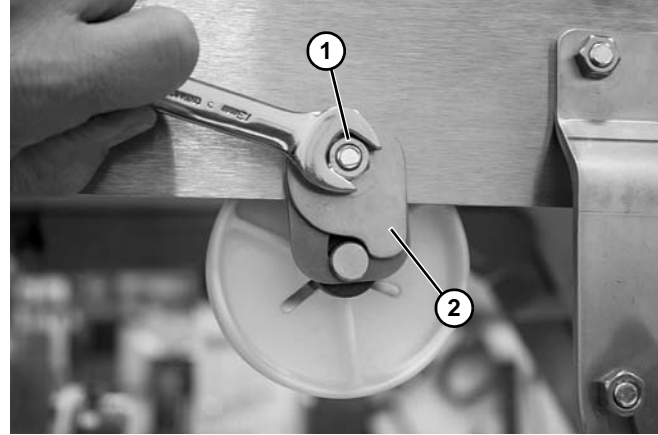

**Figure 89**
- c. To lock the retainer plate (**Figure 89, item 1**) in place, move the wrenches (**Figure 89, item 2**) away from each other.